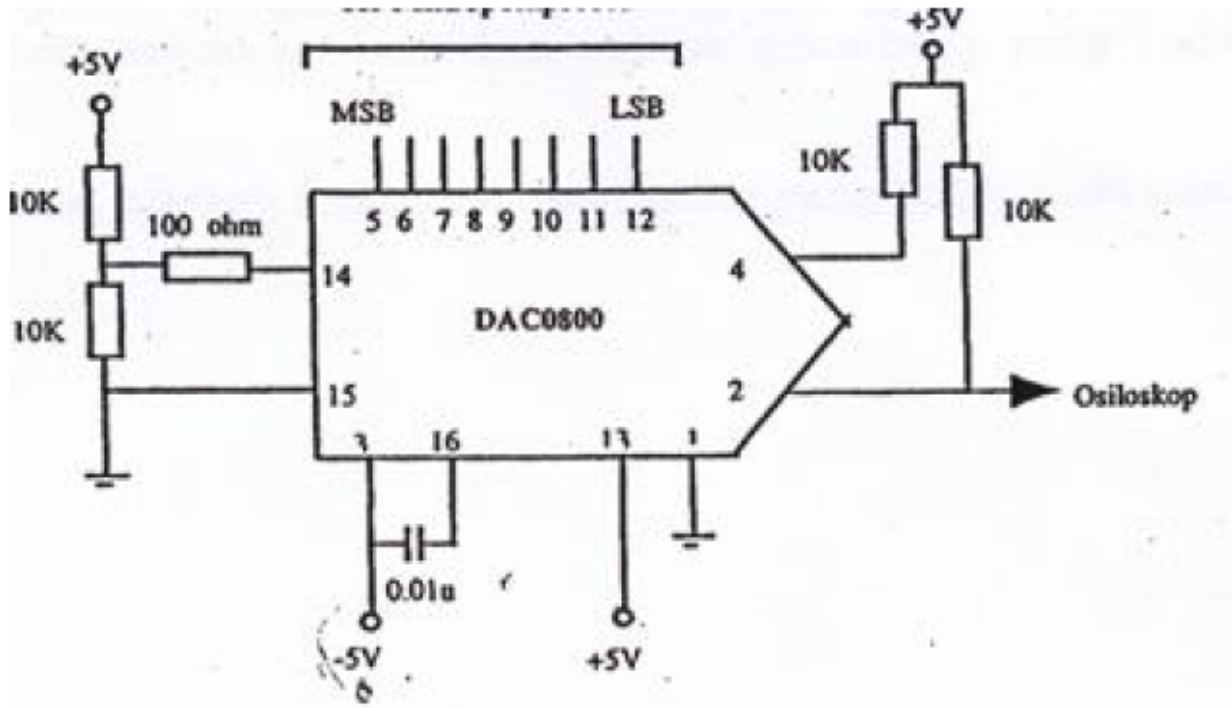

Figure 10.1: DAC0800 test circuit with op-amp output stage.
1. Connect the DAC0800 as shown in Figure 10.1.
1. Connect the circuit as shown in Figure 10.1.
2. Connect the circuit as shown in Figure 10.1.